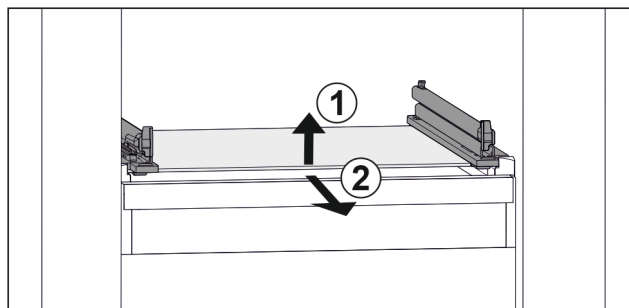

Fig. 118 Example illustration of glass shelf
- ▶ Lift glass shelf at the front. Fig. 118 (1)
- ▶ Take out glass shelf to the front. Fig. 118 (2)